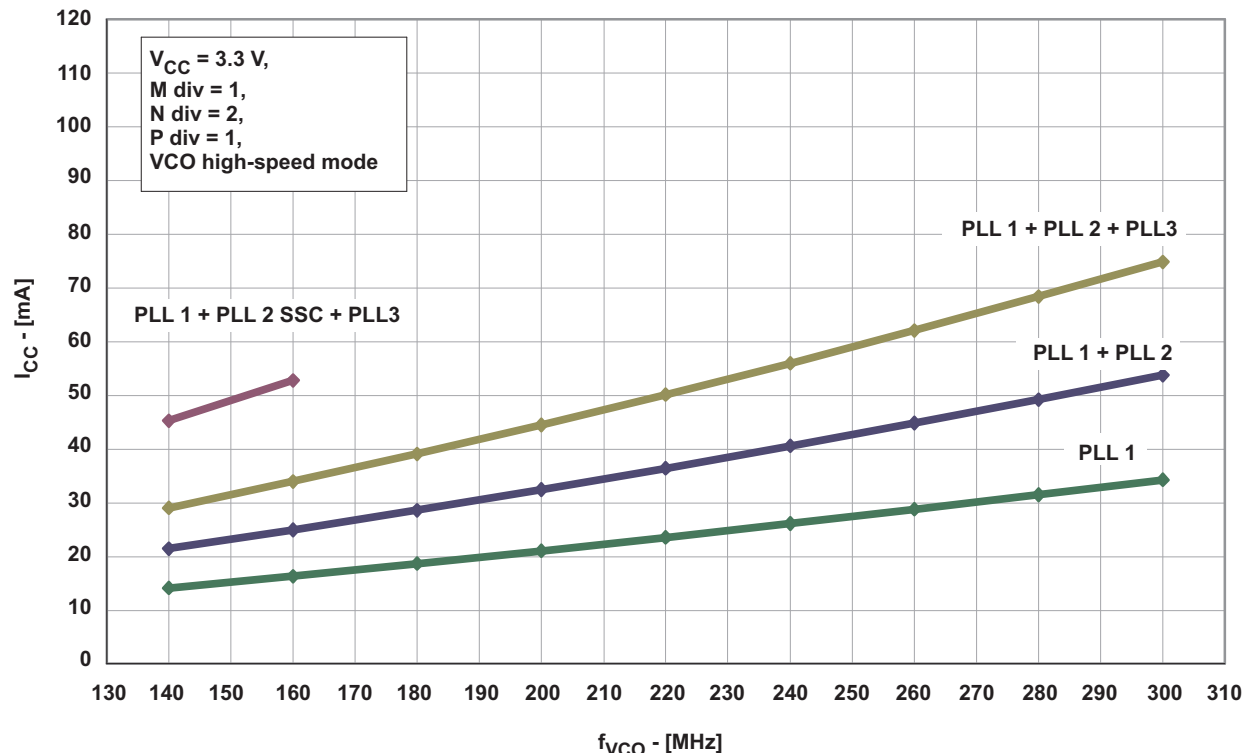

Figure 3. I_{CC} vs Number of PLLs and VCO Frequency (VCO at High-Speed Mode, Byte 6 Bit [7:5])
(1) All typical values are at respective nominal V_{CC} .
(2) For calculating total supply current, add the current from Figure 2, Figure 3, and Figure 4. Using high-speed mode of the VCO reduces the current consumption. See Figure 3.
(3) Normal-speed mode or high-speed mode must be selected by the VCO frequency selection bit in Byte 6, Bit [7:5]. The min $f_{(VCO)}$ can be lower but impacts jitter-performance.